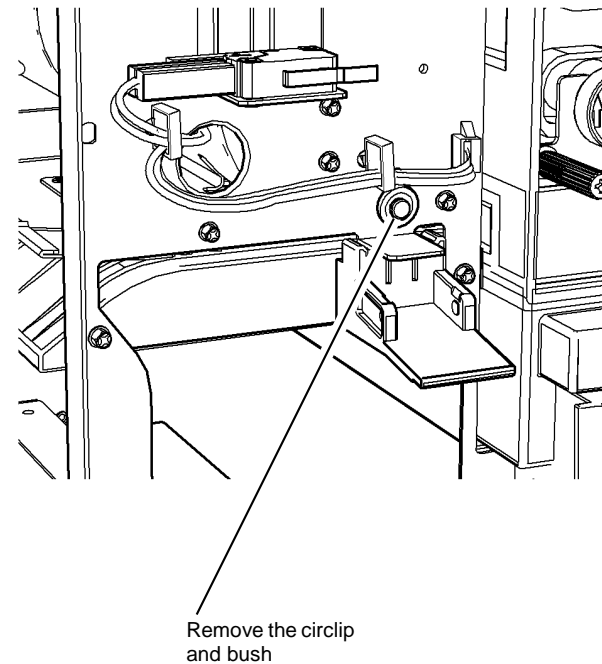

Figure 2 Circlip and bush removal
3. Figure 2. At the front of the HVF, remove the circlip and bush.